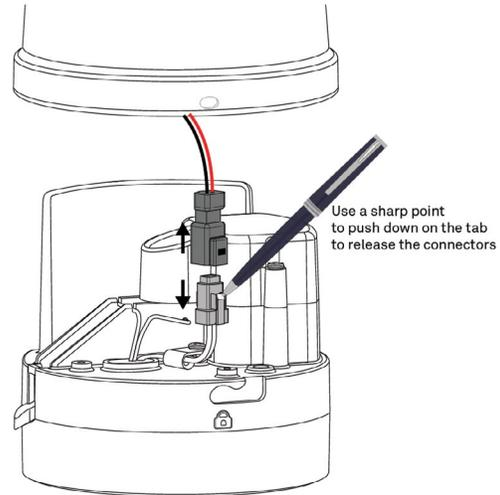

Figure 3. Disconnect pyranometer connector
6. Press in the tabs on both sides of the connector locking mechanism with an object with a sharp point (e.g., a ball-point pen, Figure 3).
NOTE: If the rain funnel pyranometer connect does not look like the one in Figure 3, just pull the connectors apart.